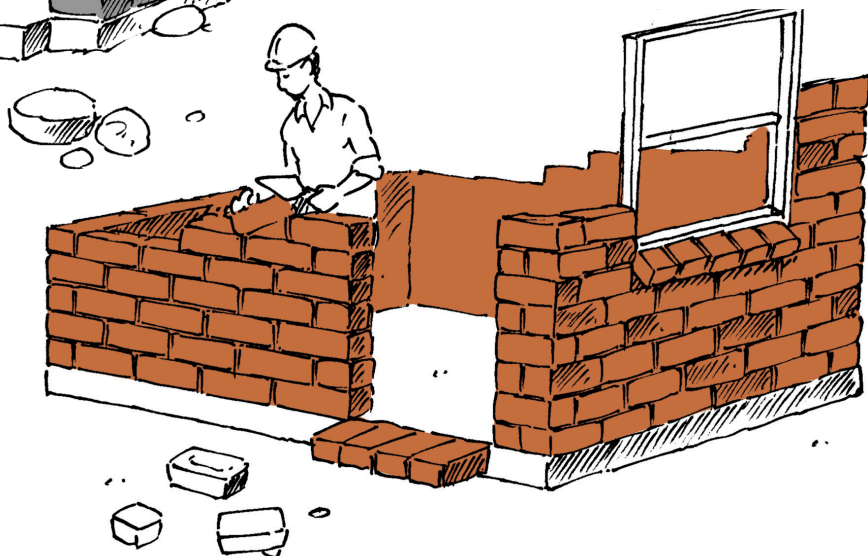

Figure 11: House D
- What material is being used to build the house in Figure 11?
- What tools are being used by the people building the house in Figure 11?